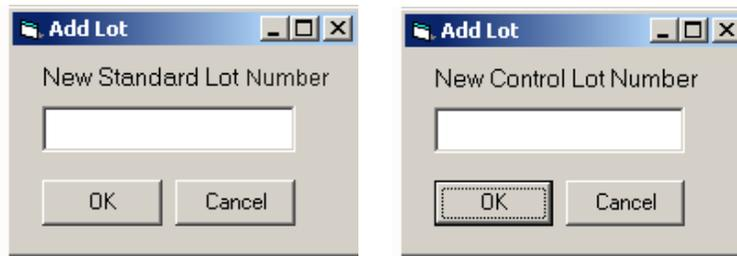
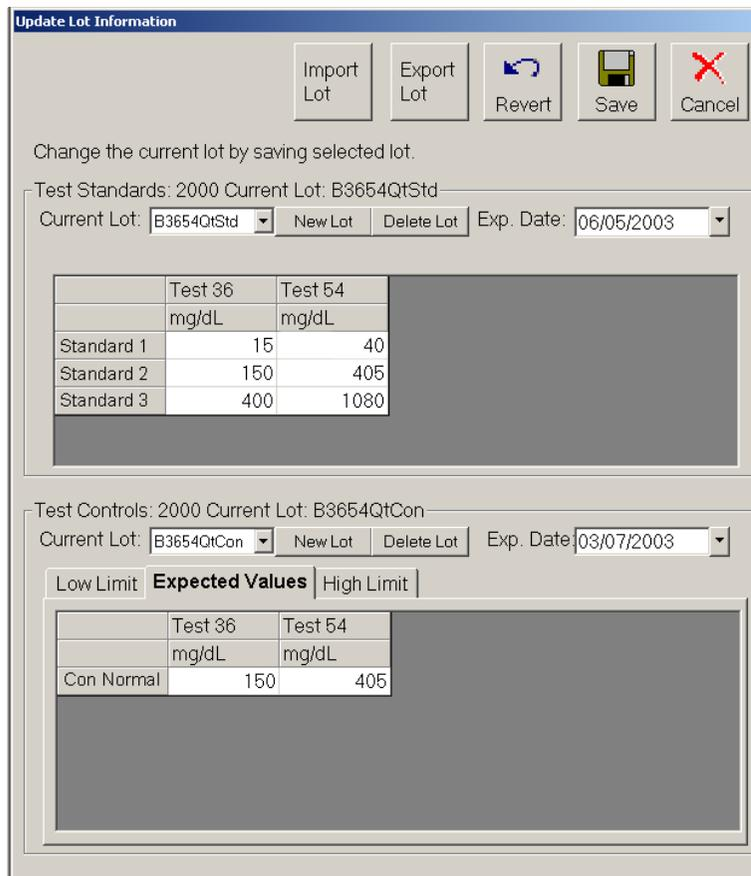

Figure 42 Add Lot Standard and Control Dialog Boxes
Figure 43 Update Lot Information Dialog Box
- a.) If this is a new template with no associated lot information, a **New Standard Lot** or **New Control Lot** dialog box opens as appropriate. Enter the standard and control numbers to continue. Once you enter the numbers, the **Update Lot Information** dialog box opens. See Figure 42 and Figure 43.
b.) If the template has associated lot information, the **Update Lot Information** dialog box opens. To create a new lot when there is an existing lot, click **New Lot** on the Standard or Control section of the dialog box. A **New Standard Lot** or **New Control Lot** dialog box opens. Enter the standard or control lot number. See Figure 42 and Figure 43.
Note: Depending on the types of products associated with the template that you select, the screen may vary from the example in Figure 43. That is, if you are creating only standard lots, then only the upper part of the screen displays.
5. Enter the standard concentration values provided in the kit manufacturer’s instructions. See Figure 43.